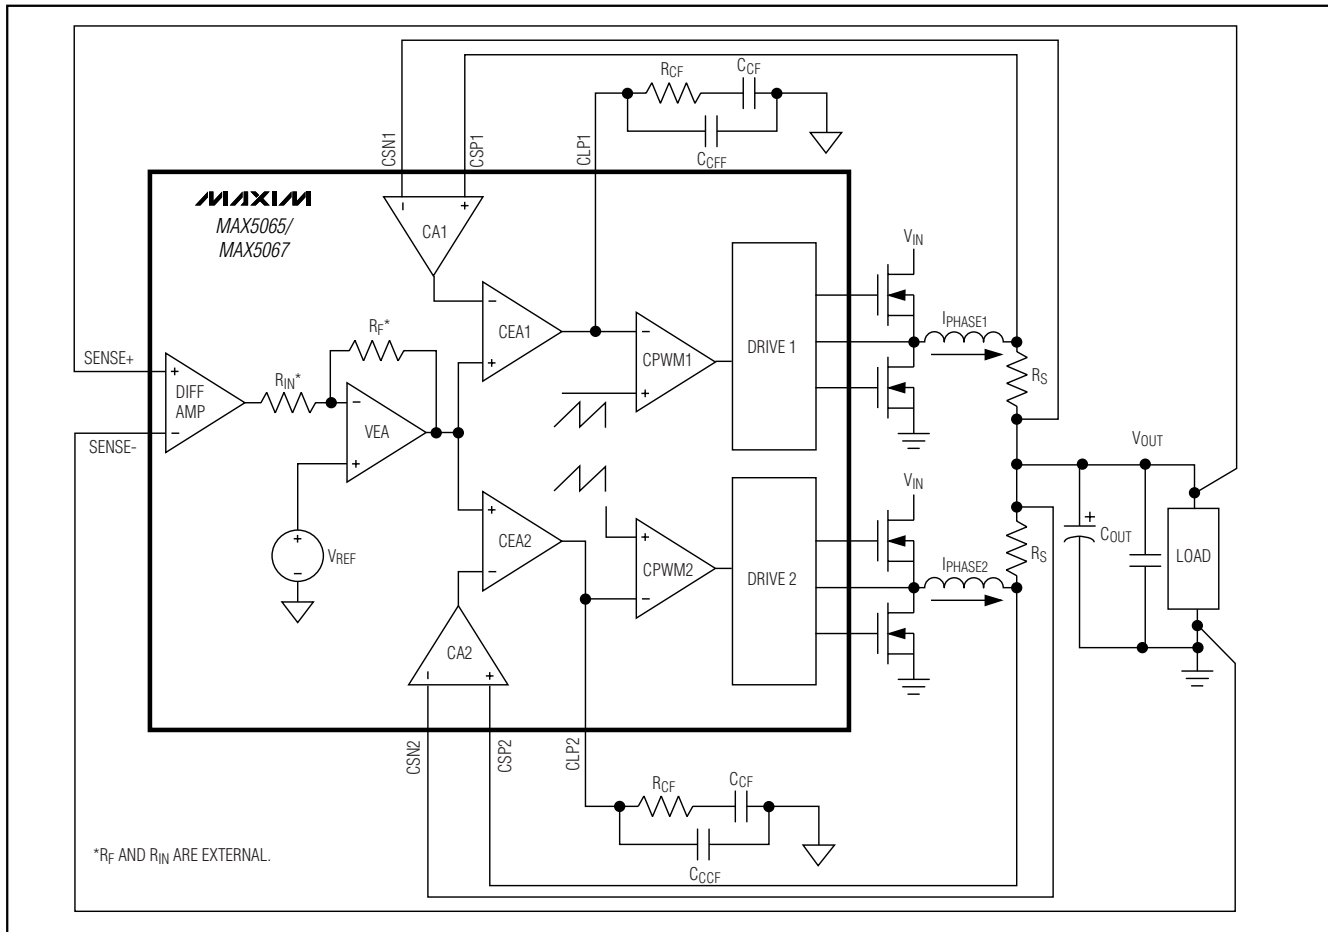

Figure 4. MAX5065/MAX5067 Control Loop
The MAX5065/MAX5067 use an average-current-mode control scheme to regulate the output voltage (Figure 4). The main control loop consists of an inner current loop and an outer voltage loop. The inner loop controls the output currents (I_{PHASE1} and I_{PHASE2}) while the outer loop controls the output voltage. The inner current loop absorbs the inductor pole reducing the order of the outer voltage loop to that of a singlepole system.
The outer voltage control loop consists of the differential amplifier (DIFF AMP), reference voltage, and VEA. The unity-gain differential amplifier provides true differential remote sensing of the output voltage. The differential amplifier output connects to the inverting input (EAN) of the VEA. The noninverting input of the VEA is internally connected to an internal precision reference voltage. The MAX5067 reference voltage is set to +0.8V and the MAX5065 reference is set to +0.6V. The VEA controls the two inner current loops (Figure 4). Use a resistive feedback network to set the VEA gain as required by the adaptive voltage-positioning circuit (see the *Adaptive Voltage Positioning* section).
Each phase of the MAX5065/MAX5067 has a dedicated transconductance current-error amplifier (CEA_) with a typical g_m of 550 μ S and 320 μ A output sink and source current capability. The current-error amplifier outputs, CLP1 and CLP2, serve as the inverting input to the PWM comparator. CLP1 and CLP2 are externally accessible to provide frequency compensation for the inner current loops (Figure 4). Compensate CEA_ so the inductor current down slope, which becomes the
The differential amplifier (DIFF AMP) facilitates output voltage remote sensing at the load (Figure 4). It provides true differential output voltage sensing while rejecting the common-mode voltage errors due to high-current ground paths. Sensing the output voltage
The VEA output clamps to +0.9V relative to V_{CM} (+0.6V), thus limiting the average maximum current from individual phases. The maximum average current-limit threshold for each phase is equal to the maximum clamp voltage of the VEA divided by the gain (18) of the current-sense amplifier. This results in accurate settings for the average maximum current for each phase. Set the VEA gain using R_F and R_{IN} for the amount of output voltage positioning required within the rated current range as discussed in the *Adaptive Voltage Positioning* section (Figure 4).
Average-current-mode control has the ability to limit the average current sourced by the converter during a fault condition. When a fault condition occurs, the VEA output clamps to +0.9V with respect to the common-mode voltage ($V_{CM} = +0.6V$) and is compared with the output of the current-sense amplifiers (CA1 and CA2) (see Figure 4). The current-sense amplifier's gain of 18 limits the maximum current in the inductor or sense resistor to $I_{LIMIT} = 50mV/R_S$.